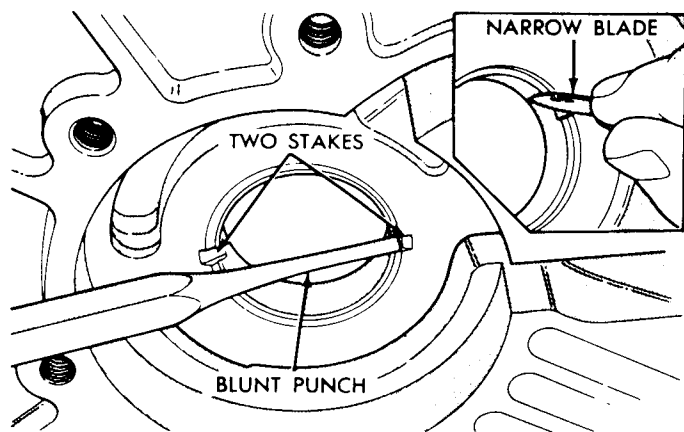

Fig. 10—Stake Pump Bushing
- (1) Place pump housing (seal face down) on a smooth, firm surface.
- (2) Place removing head, Tool SP-3551 in bushing and install handle Tool C-4171 in the removing head (Fig. 10).
- (3) Drive bushing straight down and out of pump housing bore. Be careful not to cock tool in the bore.
- (4) Position new bushing on installing head Tool SP-5117.
- (5) With pump housing on a smooth, clean surface, start bushing and installing head in the bushing bore. Install handle in the installing head (Fig. 10).
- (6) Drive bushing into housing until tool bottoms in the pump cavity. Be careful not to cock tool during installation.
- (7) Stake bushing in place by using a blunt punch or similar tool (Fig. 10). A gentle tap at each stake slot location will suffice.
- (8) Using a narrow-bladed knife or similar tool, remove high points or burrs around staked area
(Fig. 10). Do not use a file or similar tool that will remove more metal than is necessary.